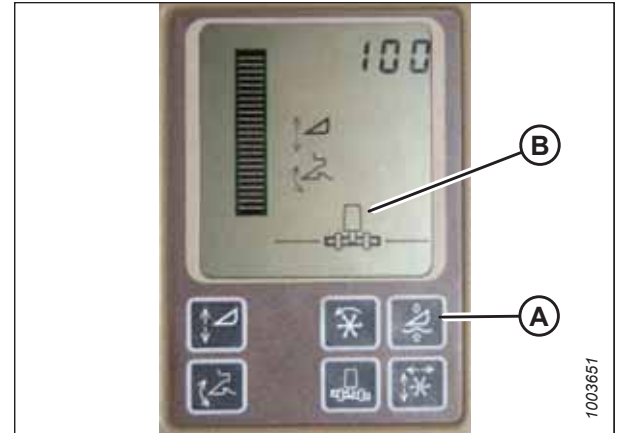

Figure 4.198: John Deere Combine Display
Do **NOT** use active header float function (A) in combination with the AHHC system; the two systems will counteract each other. Header symbol (B) on the display should **NOT** have a wavy line under it and should appear exactly as shown on the Active Header Control Display in Figure 4.198, page 231.